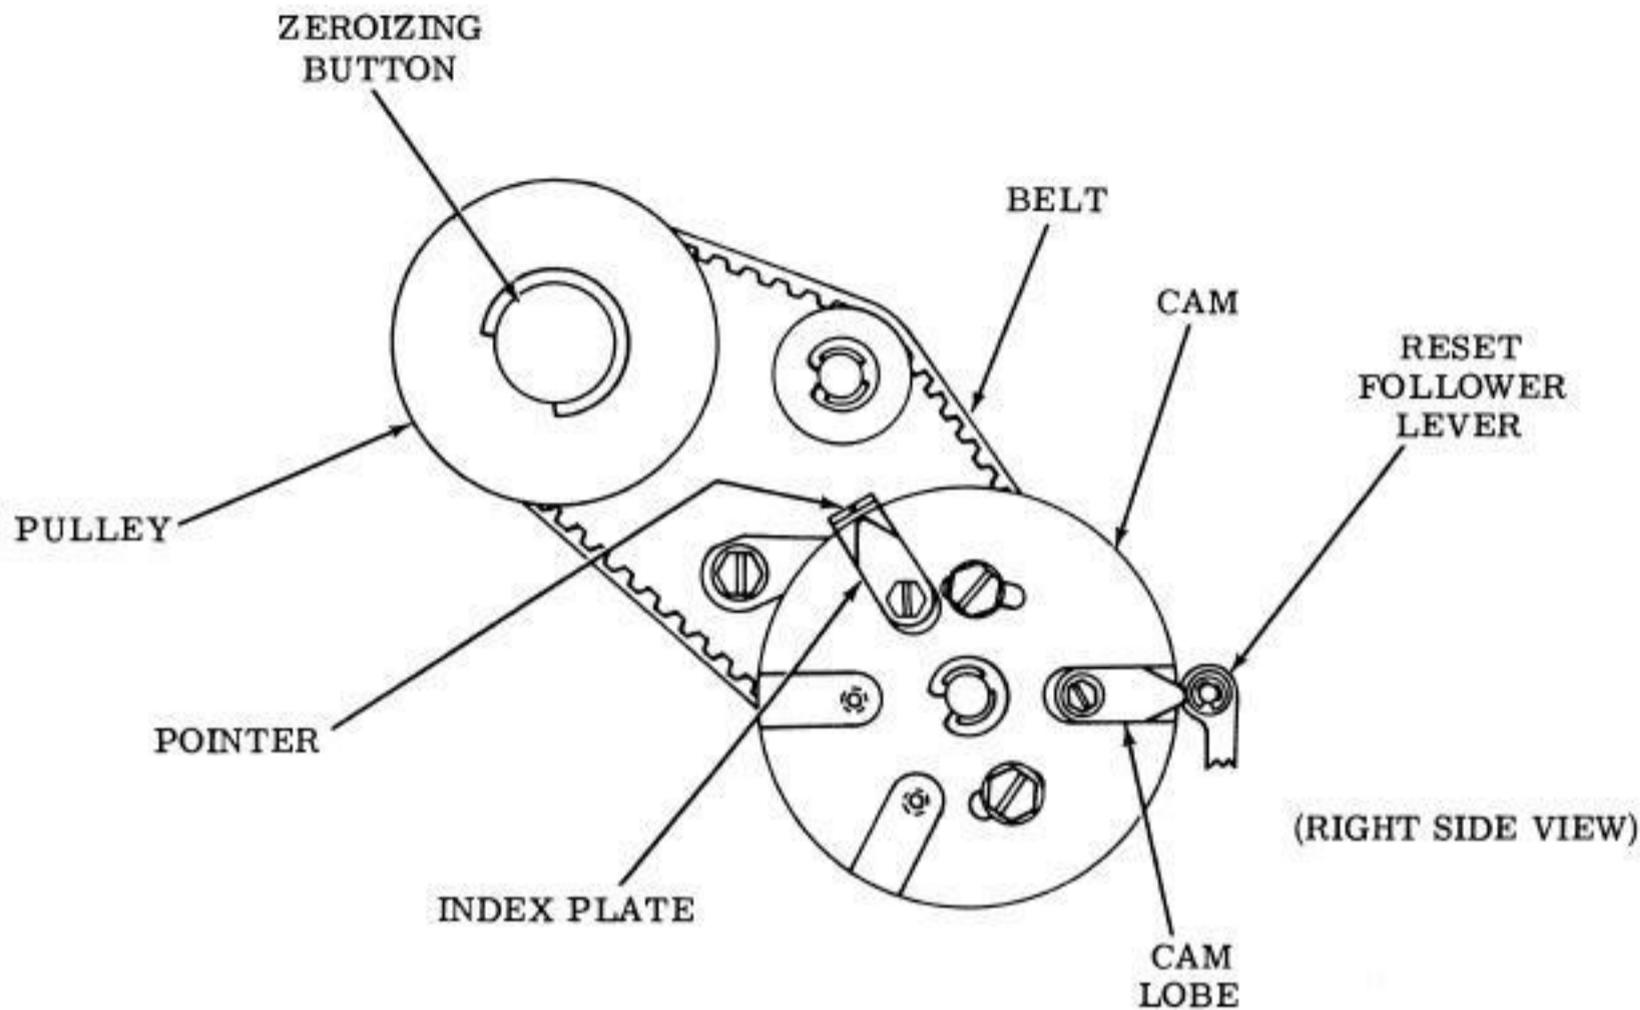

Figure 8 - Zeroizing Position of Platen Drive Mechanism — One Cam Lobe Operation
3.20 Figure 8 illustrates the zeroizing position of the platen drive mechanism for one cam lobe operation. For the zeroized position of the platen drive mechanism using more than one cam lobe, see the CAM ZERO POSITION (Platen Drive Area, Sprocket Feed Mechanism) adjustment in the appropriate typing unit adjustment section.